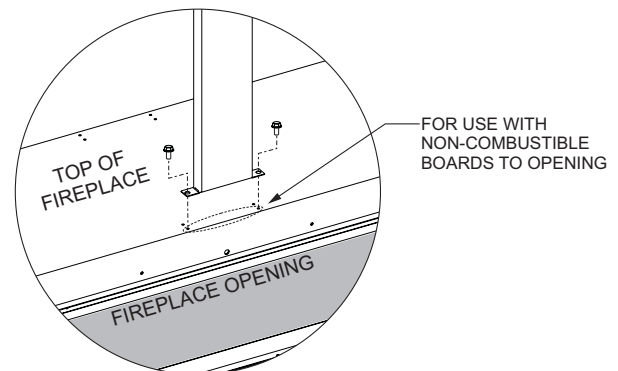

Figure 29 - OPTION 1
- 9a. **OPTION 1** - Secure the brackets to the fireplace top with screws. There are holes located in the top of the fireplace for each standoff bracket. The holes closer to the front edge of the fireplace are for mounting non-combustible board around the opening. (Finishing **OPTION 1**). See Figure 29.